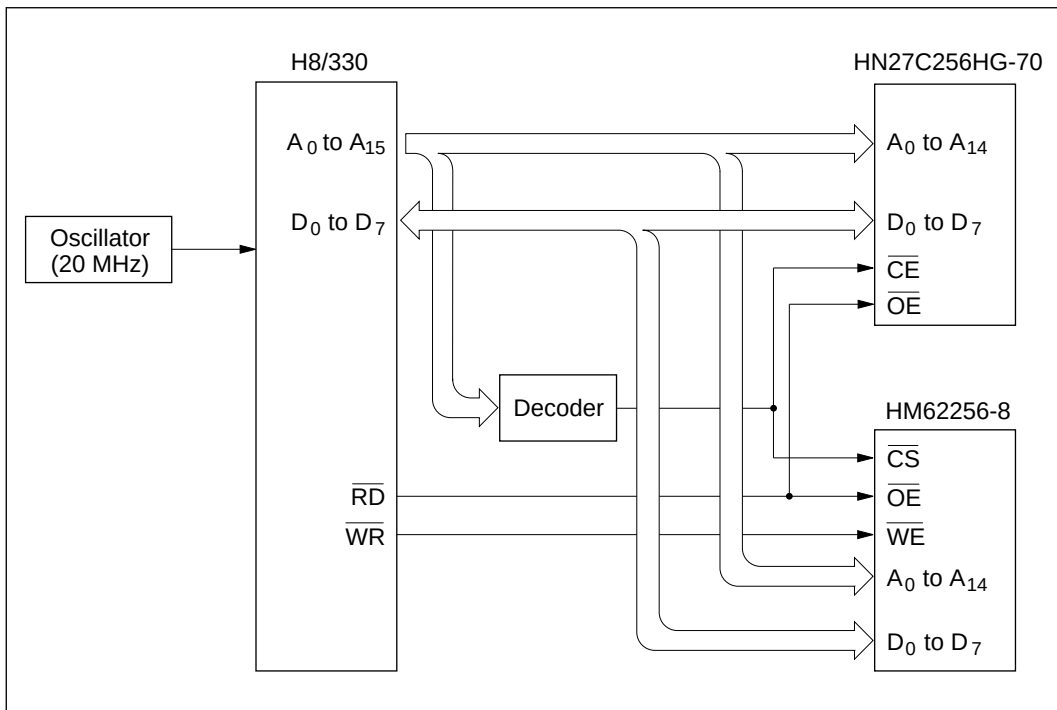

Figure 1 H8/330-Memory Interface Block Diagram
1. The H8/330's expanded mode (mode 2) is used to interface the H8/330 to EPROM (HN27C256) and SRAM (HM62256-8) as shown in figure 1.